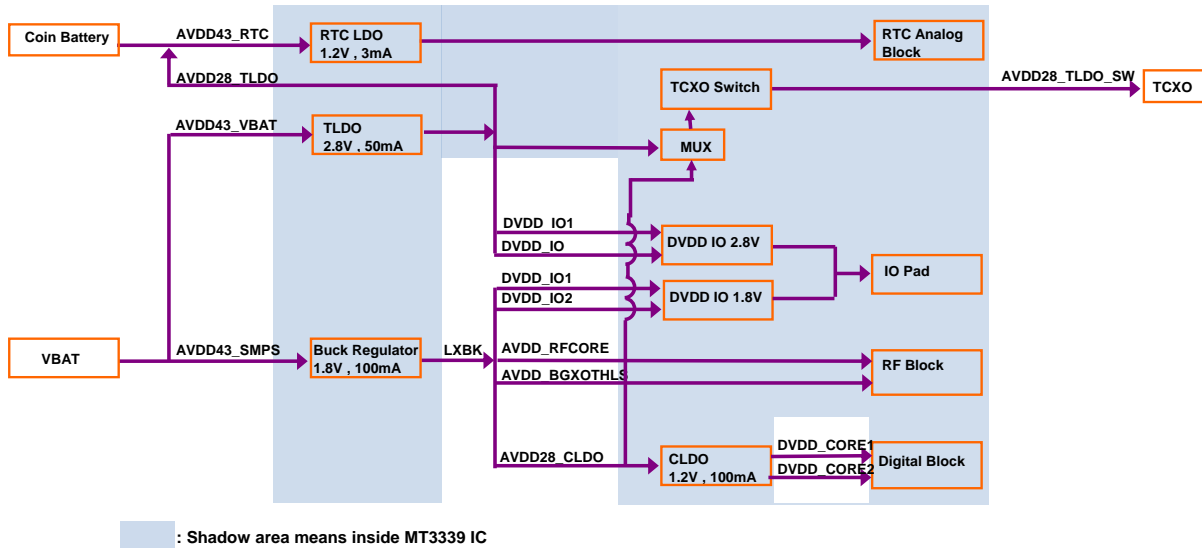
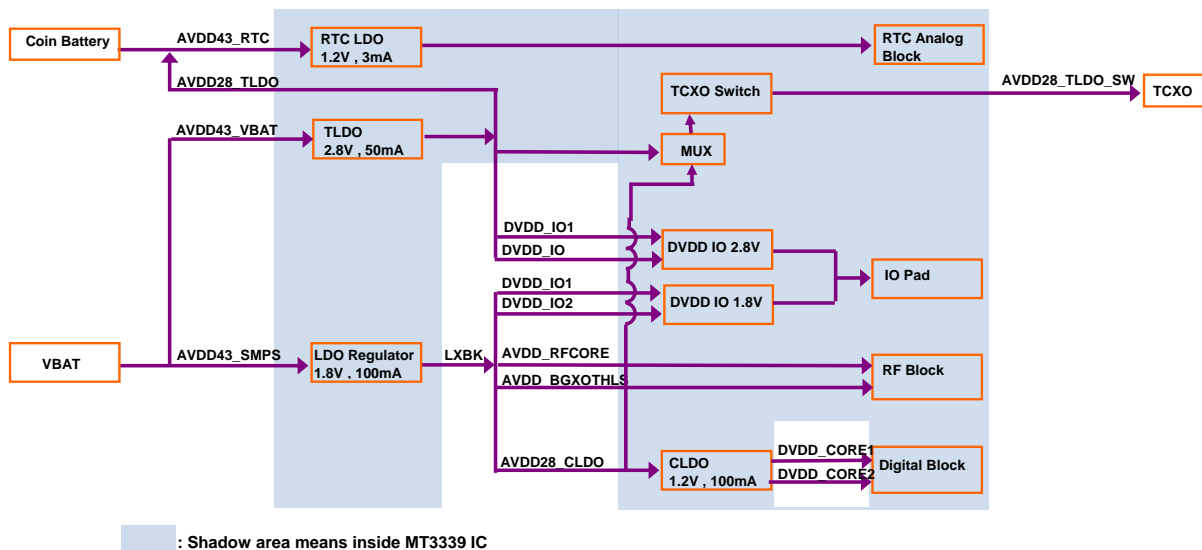
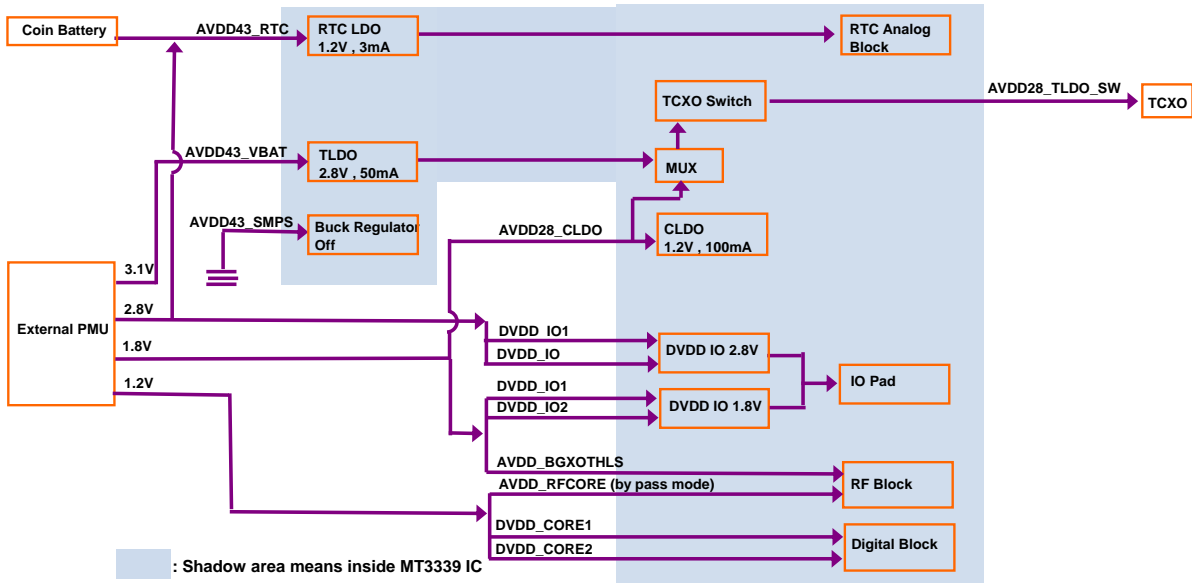

Figure 5-6: Power supply connection (low power)
Figure 5-7: Power supply connection (low cost)
Figure 5-8: Power supply connection (external LDO)
- Here are 3 power schemes: low power (Figure 5-6), low cost (Figure 5-7) and external PMU (Figure 5-8).
- In Figure 5-8, if 2.8V TCXO is used, AVDD28\_CLDO should be open for saving power.